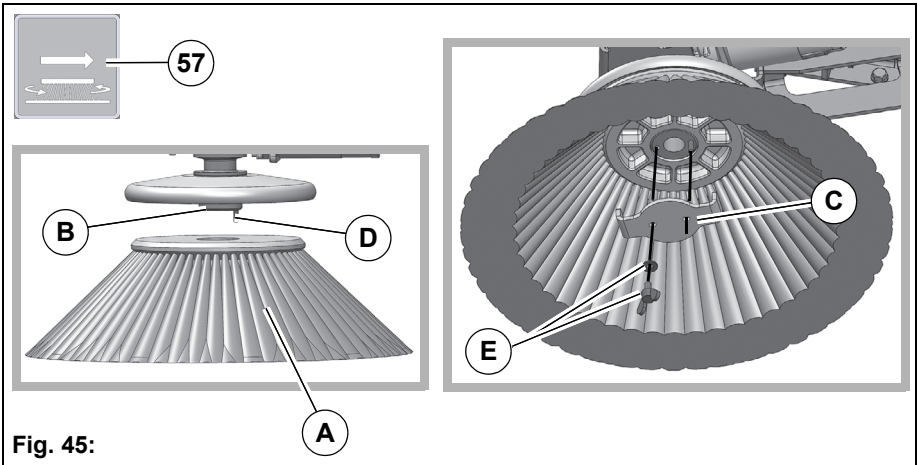

Fig. 45:
3. Fit the side brush **Fig. 45-A** to the hub **Fig. 45-B**.
4. Position the carrier plate **Fig. 45-C** in such a way that the pin of the hub **Fig. 45-D** goes through the hole of the carrier plate and the carrier plate is sitting firmly in the holder.
5. Secure carrier plate to hub with washer and wing bolt **Fig. 45-E**.